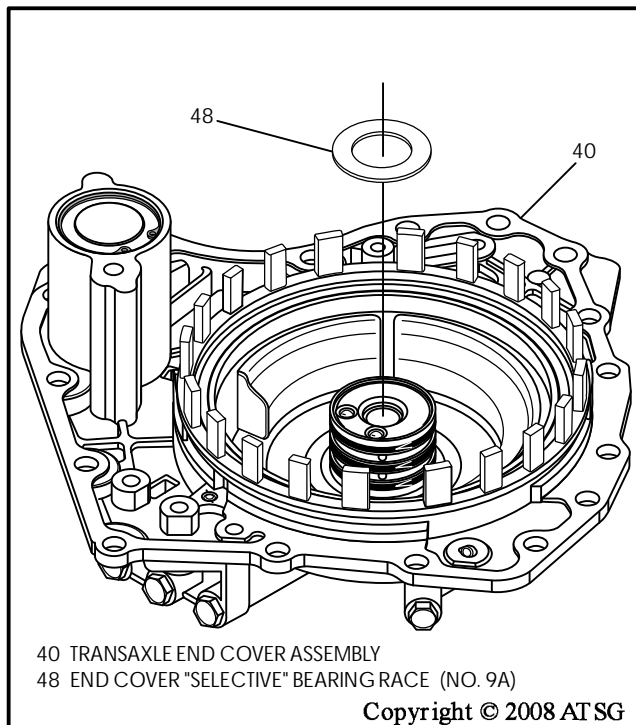

Figure 209
42. Place the pre-assembled end cover on flat work surface, as shown in Figure 209.
43. Place the end cover "selective" thrust bearing race on the direct clutch support, as shown in Figure 209.